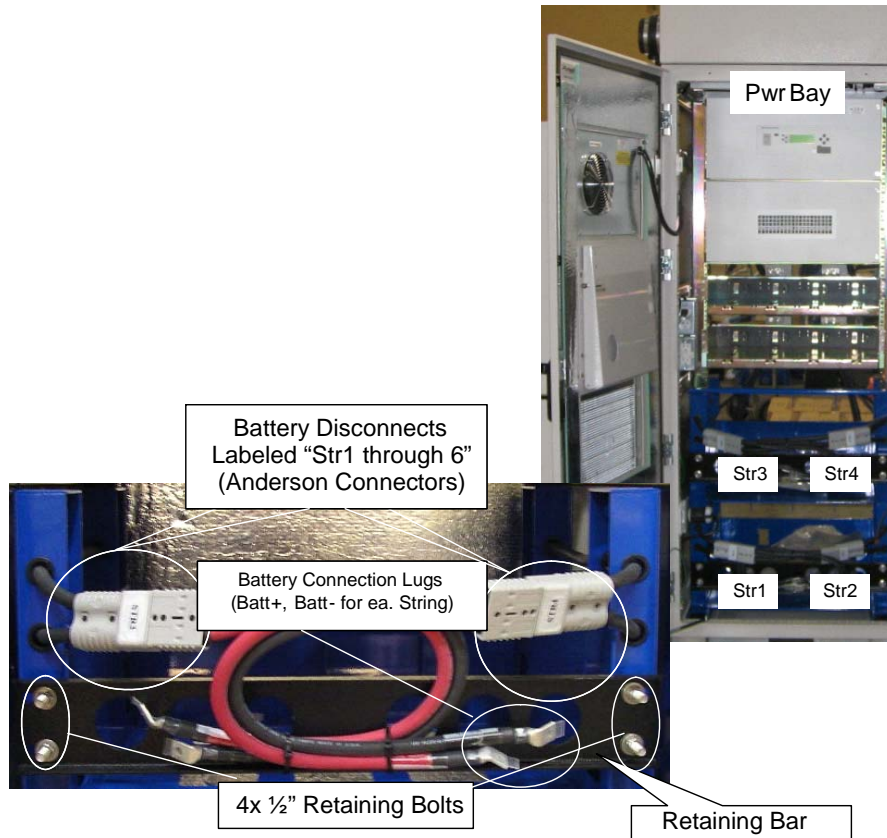

Figure 8 – Battery Install Diagram (+24V Configuration)
4. Remove the front retaining plates for each box where batteries are to be installed by loosening the (4) bolts holding them in place with a 1/2" socket or wrench. Retain those parts for reinstall.
7. The battery connection cables come pre-crimped with a 1-hole lug to connect to the (-) terminal of the left-most battery and (+) terminal of the right-most battery for each string (See Figure 8). For safety, they have insulating heat-shrink over the metal lugs. For each string of batteries to be installed ONLY, strip off the insulation covering the metallic lug on the battery cables.
9. Next, connect the "BATT-" cable (black) for String 1 to the (-) terminal of the left battery. (See Figure 8).